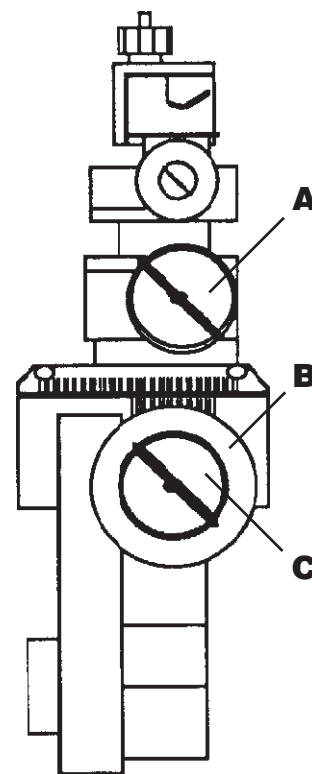

Fig. 2
**Procedure:** For axes controlled by knobs A and C: Grasp the knurled knob housing with the pliers, being careful to protect the knob by covering it with a cloth or piece of rubber. While holding the knob housing securely, loosen the large locking screw (shown in Figure 2) in the back of the knob with the adjustment tool.